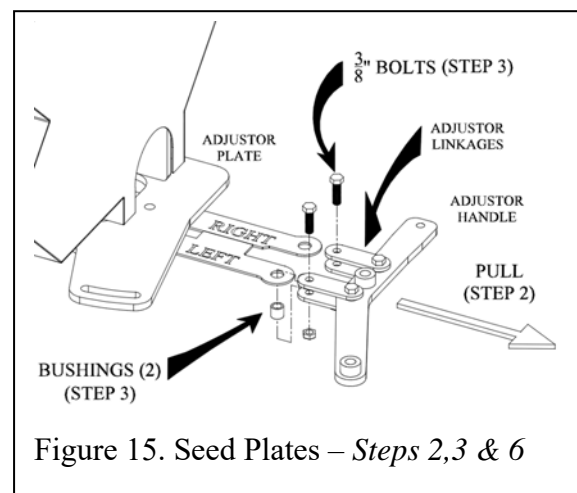

Figure 15. Seed Plates – Steps 2,3 & 6
2. Pull straight out on the adjuster handle and slide the seed plate assembly out of the seed box as shown in Figure 15.
3. Using the 9/16" wrenches, loosen and remove the 3/8" bolts connecting both seed plates to the adjuster linkages as shown in Figure 15.
6. Reassemble the desired seed plate assembly; be sure the left and right plates are oriented as shown in Figure 15.